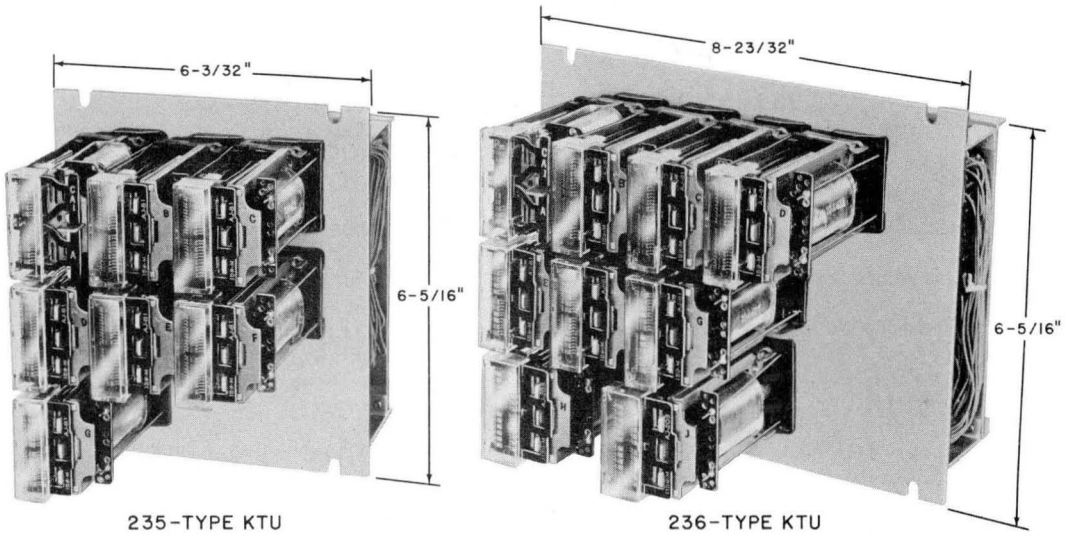

Fig. 1—Station Line Concentrator KTUs, Front View
1.02 When a 446F diode and 185A network are added to the 235A (MD) or 236A (MD) KTU they become identical to the 235B and 236B KTUs, respectively (Fig. 1 and 2).